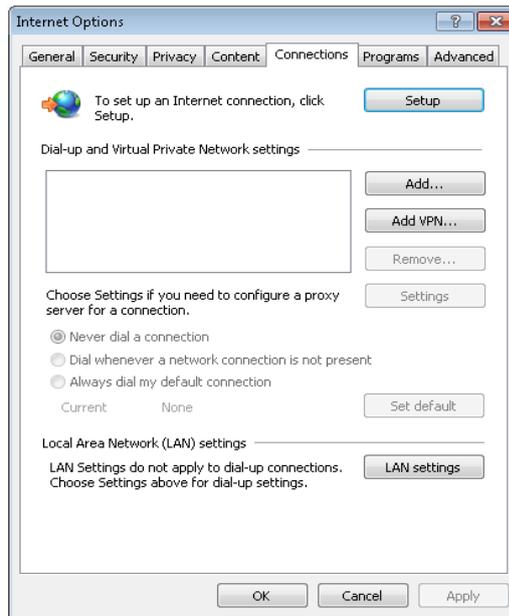
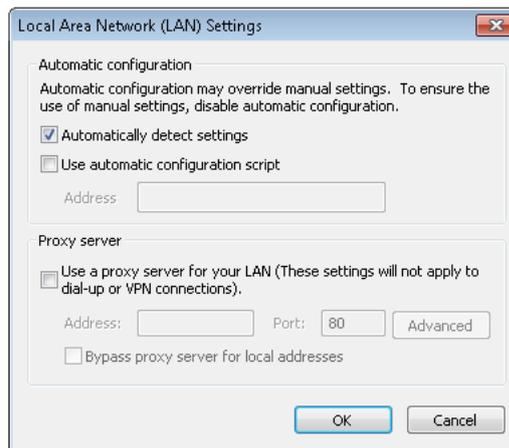

Figure 6-2 Choosing the Connections tab
Figure 6-3 LAN setting
1. Double-click the icon of IE to run the software, click the menus of **Tools -> Internet Options** and then choose the **Connections** tab to pop up the window shown in Figure 6-2.
2. In the window shown in Figure 6-2, click the button **LAN Settings** to pop up the window shown in Figure 6-3.